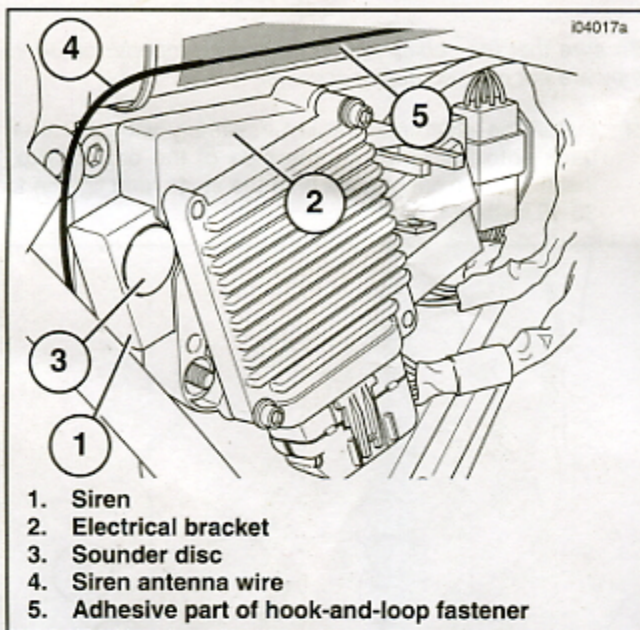

Figure 10. Siren and Electrical Bracket Installed (Touring Models)
9. See Figure 10. Clean the outboard surface of the frame tube above the electrical bracket with a mixture of 50 to 70% isopropyl alcohol and 30 to 50% water. Allow to dry thoroughly.